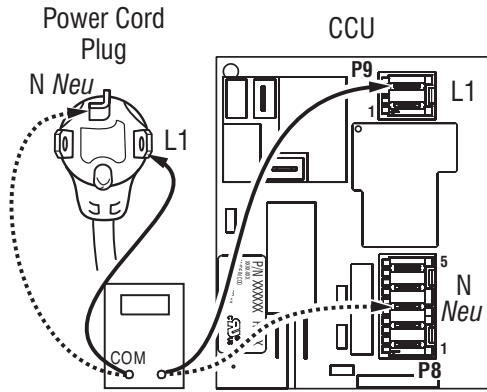

Figure 13b - Plug-to-terminal connections for electric dryer.
4. With an ohmmeter, check the continuity from L1 and N plug terminals of the power cord to the terminals for L1 and N on the CCU. See figure 13b.